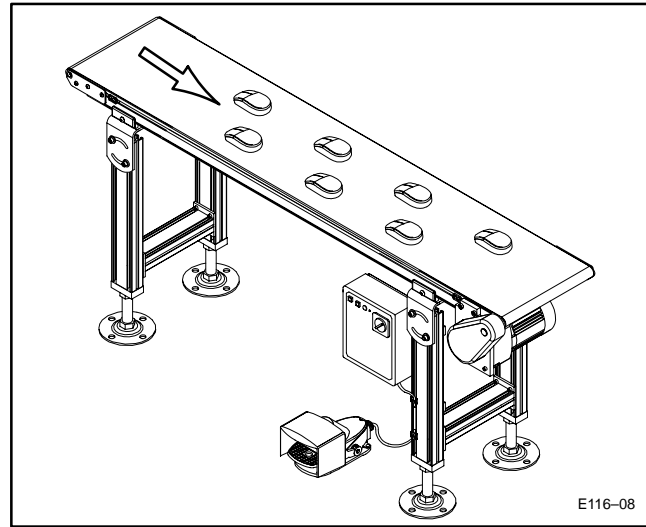

Figure 8: Sample impac & Foot Switch Application
- c. Shown here is an application using a Foot Switch to start and stop a Conveyor (Figure 8).